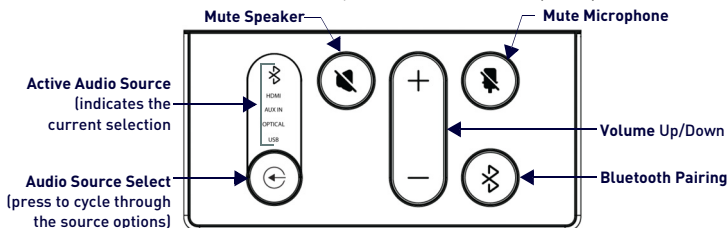

FIG. 9 ACV-5100 LEFT SIDE PANEL KEYPAD
All controls and LEDs are on the left side panel of the ACV-5100 (FIG. 9):
2. Use **Source Select** button on the the ACV-5100 (FIG. 9) to select **USB** (if necessary).
2. Press and hold both the **Source Select** and **Bluetooth Pairing** buttons on the ACV-5100 (see FIG. 9). After 3-5 seconds the LEDs on the remote control should stop flashing to indicate the remote control has paired.
1. Press the **Bluetooth Pairing** button on the Acendo Vibe or the remote control to initiate pairing (see FIG. 9). The Bluetooth button will flash on both the ACV-5100 and the remote control.
In order for the Acendo Vibe Configuration Tool to communicate with the ACV-5100, the unit must be in Setup Mode. To place the ACV-5100 in Setup Mode, press the **Audio Source Select** and **Mic Mute** buttons on the ACV-5100 simultaneously (see FIG. 9) for 3 seconds. All of the LEDs blink to indicate that the unit is in Setup Mode.